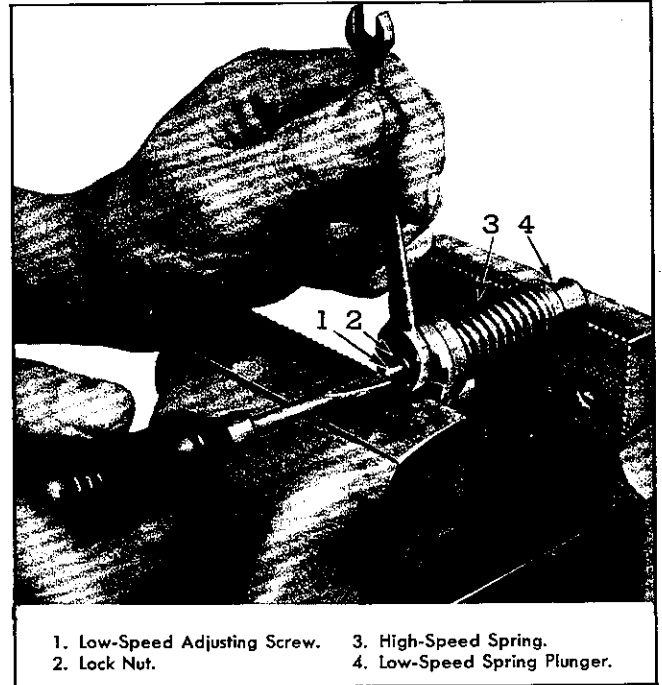

Fig. 6—Removing Adjusting Screw from Governor Spring and Plunger Assembly.
5. Compress the spring assembly in a vise, as shown in Fig. 6, then loosen the locknut (2) and remove the low-speed adjusting screw (1) from the low-speed spring plunger (4).